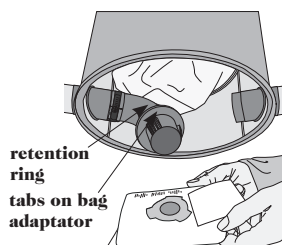

figure 7
3. Install the new bag, ensuring the tabs on the bag adaptor are aligned with the slots in the bag collar (**figure 7**).